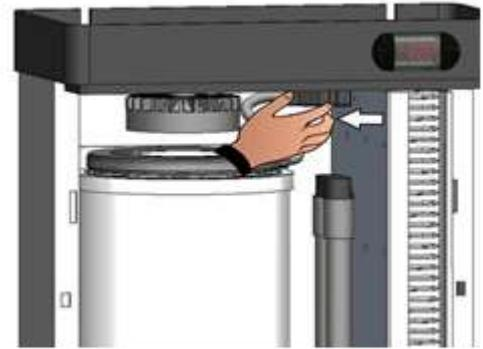

Fig. 30
4. Remove the power connector of the cylinder (Fig. 30).